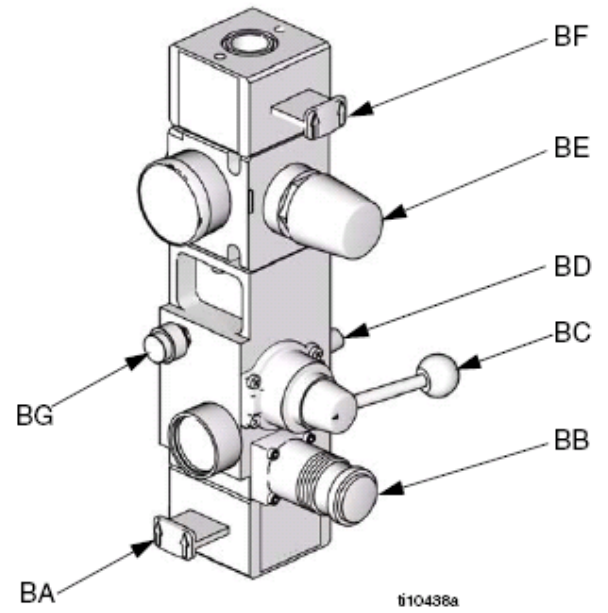
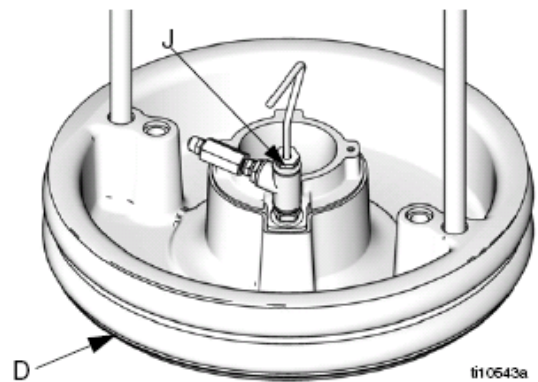

Fig. 8
Fig. 9
1. Refer to **Fig. 8** and **Fig. 9**. Open main air slider valve (BA) and set ram air regulator (BB) to 40 psi (.28 Mpa, 2.8 bar). Set director valve handle (BC) to UP and let the ram rise to its full height.
2. Lubricate the platen seals (D) with grease or other lubricant compatible with the fluid to be pumped.
4. Put a full drum of fluid on the DC12 ram base, slide it back against the drum stops, and center it under platen (D). Use caution when rolling drum onto DC12 frame. Drum should be supported to avoid the drum rolling backwards onto the floor.
5. Remove bleed stick from platen bleed port (J).
7. Set the director valve (BC) to DOWN and lower the ram until fluid appears at the top of the platen bleed port (J). Adjust ram air regulator (BB) as needed. Set the director valve (BC) to neutral and close the platen bleed port (J).
2. Close main air slider valve (BA) on Tandem Pump. Refer to **Fig. 8**. Wait until all air pressure is relieved on Tandem Airline.
Close the air motor slider valves (BF) and the main air slider valves (BA) on all Supply Pumps. Refer to **Fig. 8**.